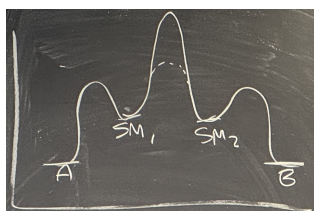

Figure 6.8: Energy variables relevant to a kinetic quench.
- One tricky thing: When the rate of interconversion approximately equals the rate of product formation (Masha shows this regime with the dotted line in Figure 6.8).